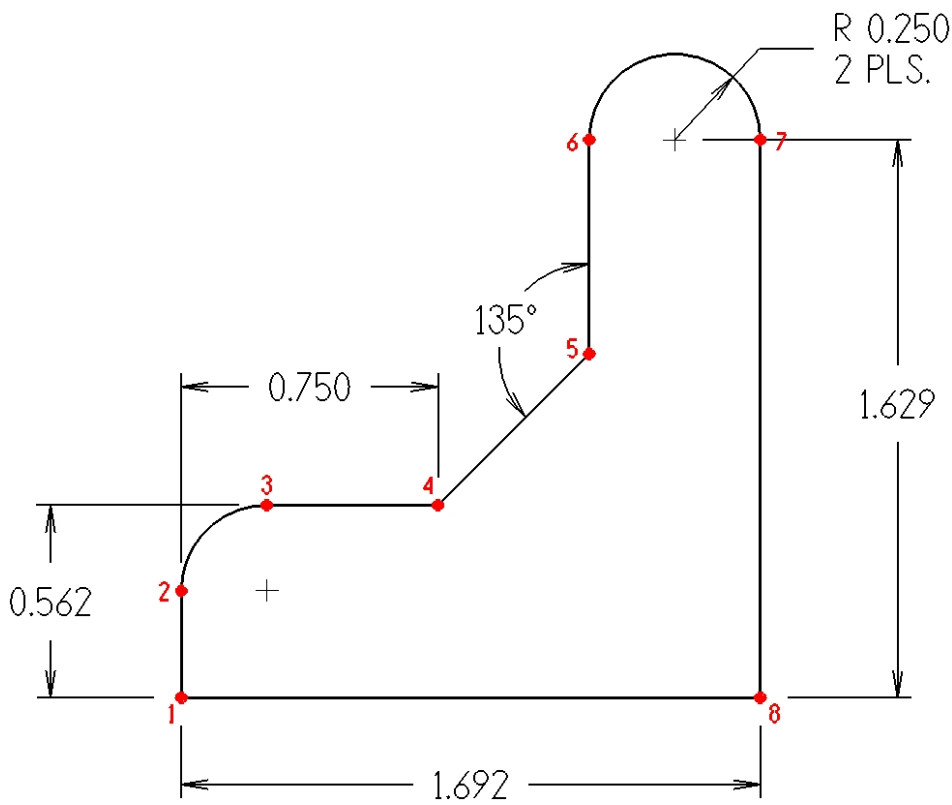

Figure 9, points are placed on the programming points needed, and numbered to match the point chart, these will be used for programming.
2. Place a dot and a number next to the dot for each programming tool position as shown in figure 9.
Solve the points in figure 9 and fill in the point values in the chart below.